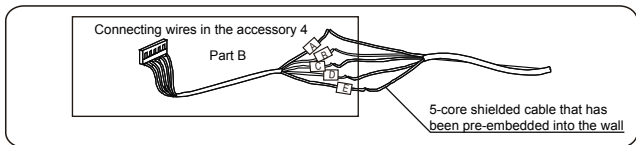

Figure 3.8
2) Connect the cut end of part B connecting wires to the 5-core shielded cable that has been pre-embedded into the wall (see Figure 3.8).